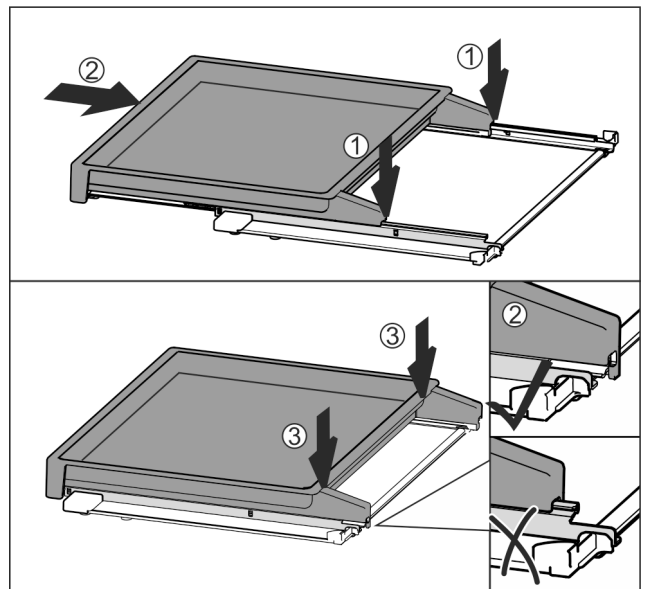

Fig. 78
- ▶ Place centrally on the rails Fig. 78 (1).
- ▶ Slide the pull-out board all the way in Fig. 78 (2).
- ▶ Press down at the back until it clicks into place Fig. 78 (3).